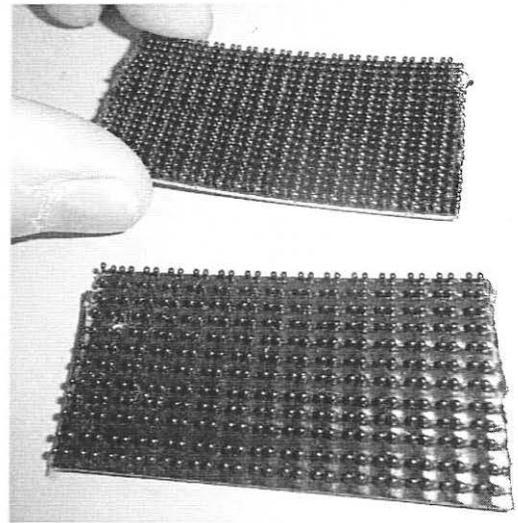

Figure 3
10. Peel off backing and apply the 2" pieces of the High Density Fastener Tape (piece being held in **Figure 3**) to the battery as shown in **Figure 4** for either forward oriented batteries or firewall facing batteries.